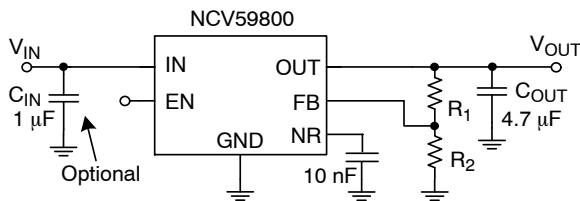

Figure 3. Typical Application Schematics
The NCV59800 regulator is equipped with Noise Reduction pin (NR) for noise sensitive applications. A noise reduction capacitor ( $C_{NR}$ ) at the NR pin bypasses noise generated by the bandgap reference. This family of regulators offers sub-bandgap output voltages, current limit, and thermal protection, and is fully specified from  $-40\text{ }^\circ\text{C}$  to  $+125\text{ }^\circ\text{C}$ , assuming resistors with zero error. For the actual design, pay attention to any resistor error factors. Figure 3 gives the Typical Application Schematics.